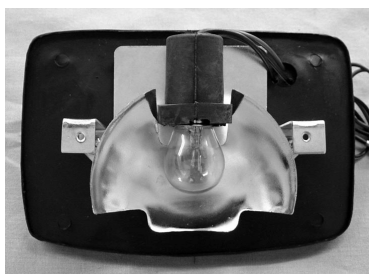

Figure 2
2. Remove the lens from the taillight assembly and all the hardware that secures the reflector assembly to the rubber backing pad. Refer to Figure 2 for more details.